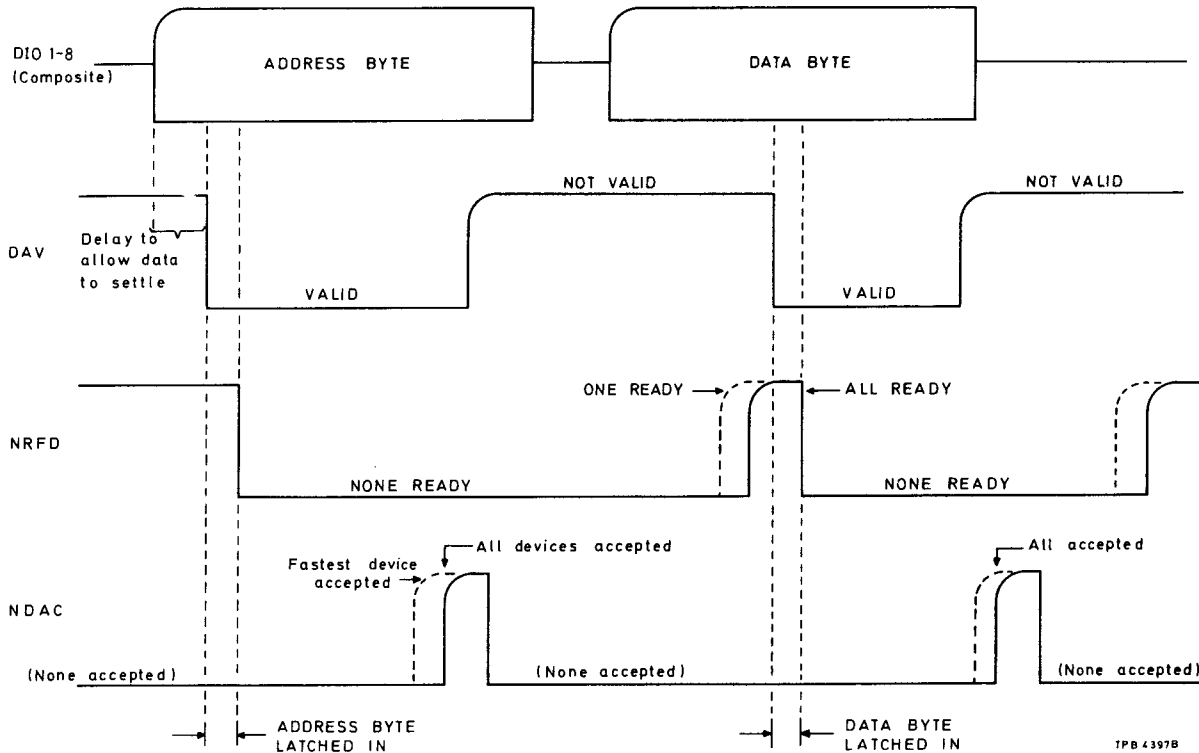

Fig. 9 Handshake procedure
- (v) Talker removes DAV, listeners assert NDAC, and the bus reverts to its initial condition ready for the next data byte, a typical cycle is shown below in Fig. 9.